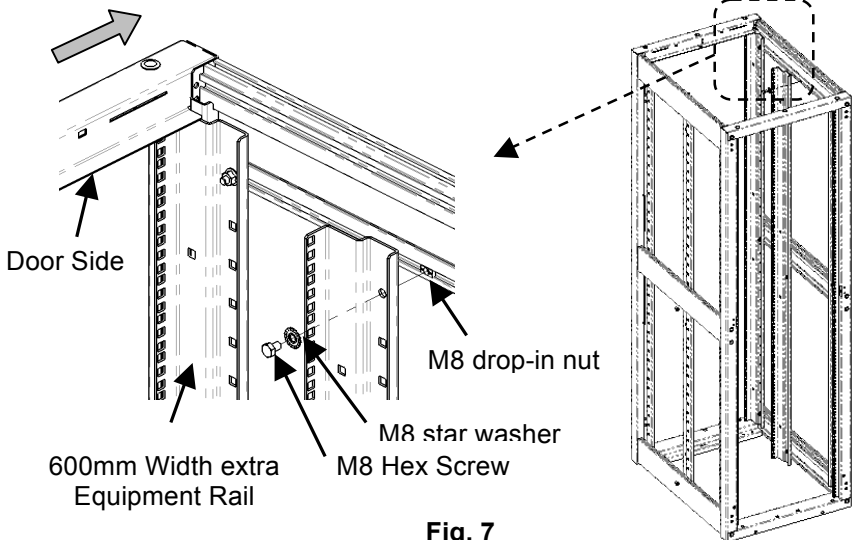

Fig. 7
- 6. Fasten the Equipment rail using M8 star washer and M8 hex screw onto M8 drop-in nut (see Fig.7). Torque screw to 250 In-Lbs. (28.3 NM).